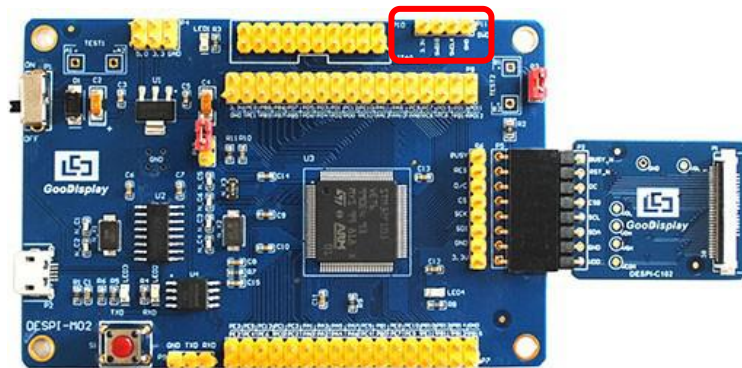

Figure 10 : SWD interface
- 1) As shown in figure 10, DESPI-M02 has a 4-wire SWD interface, which can be connected to the simulator interface by 4 wires and then connect the simulator to the computer.